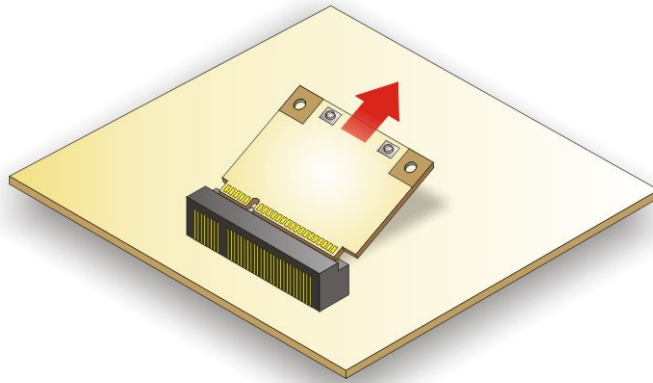

Figure 5-5: Removing the WLAN Card
Step 6: Grasp the WLAN card by the edges and carefully pull it out of the socket (**Figure 5-5**).